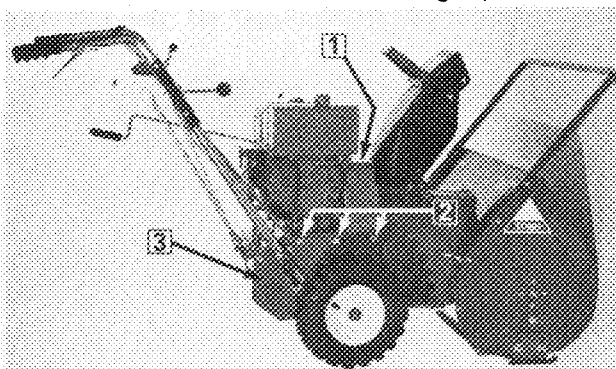

Figure 3
2. Remove two self tapping screws securing belt cover and remove cover (Fig. 3).
3. Remove three plated capscrews and locknuts securing side plate to engine base (Fig. 3).